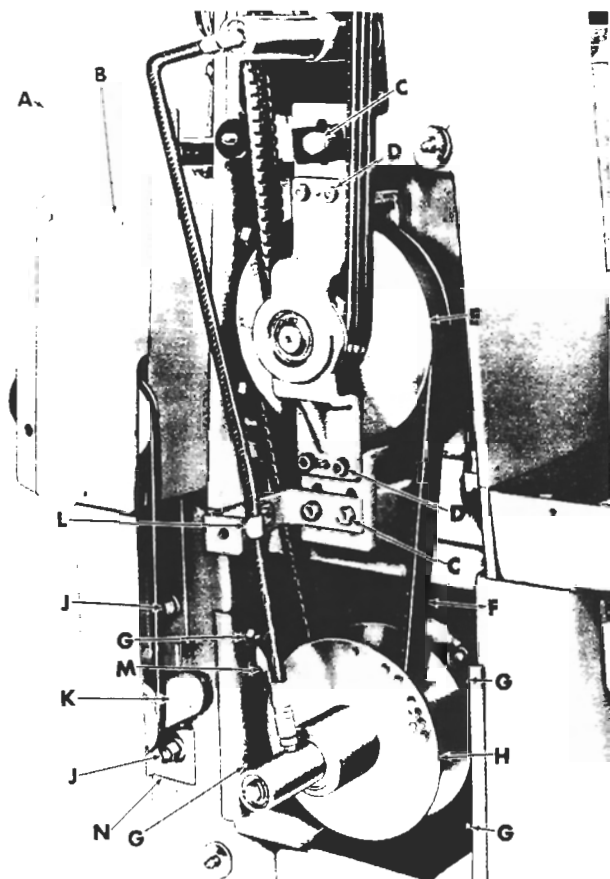
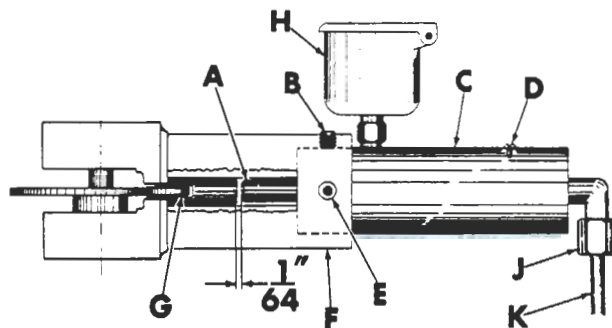

Figure 7
Figure 8
2. Remove three screws (B, fig. 7) and power feed cover (A).
3. Loosen two screws on back of power feed pulley guard (N).
9. Loosen two screws (B and E, fig. 8) in variable cam housing (F) and slide control cylinder (C) out of housing.
11. Line up set screw mark on variable cylinder with set screw hole (E) in cam housing -- tighten set screws.
13. Place variable belt (F, fig. 7) on variable motor pulley (H).
15. After variable belts have been properly adjusted and tensioned --- place power feed belt on power feed pulley assembly (K).
16. Move power feed pulley assembly (K) until belt is properly tensioned.
17. Tighten two screws on back of power feed pulley guard (N).